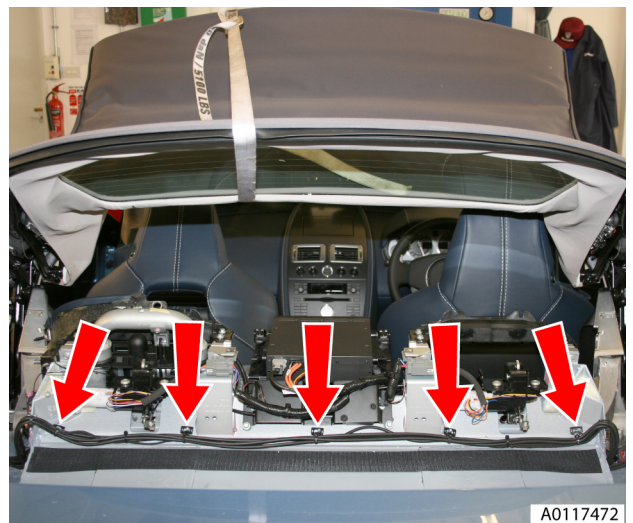

Fig. 13
28. Remove harness/pipe retaining clips (x9) behind Roll Over Protection System (ROPS) units (see Fig. 13).